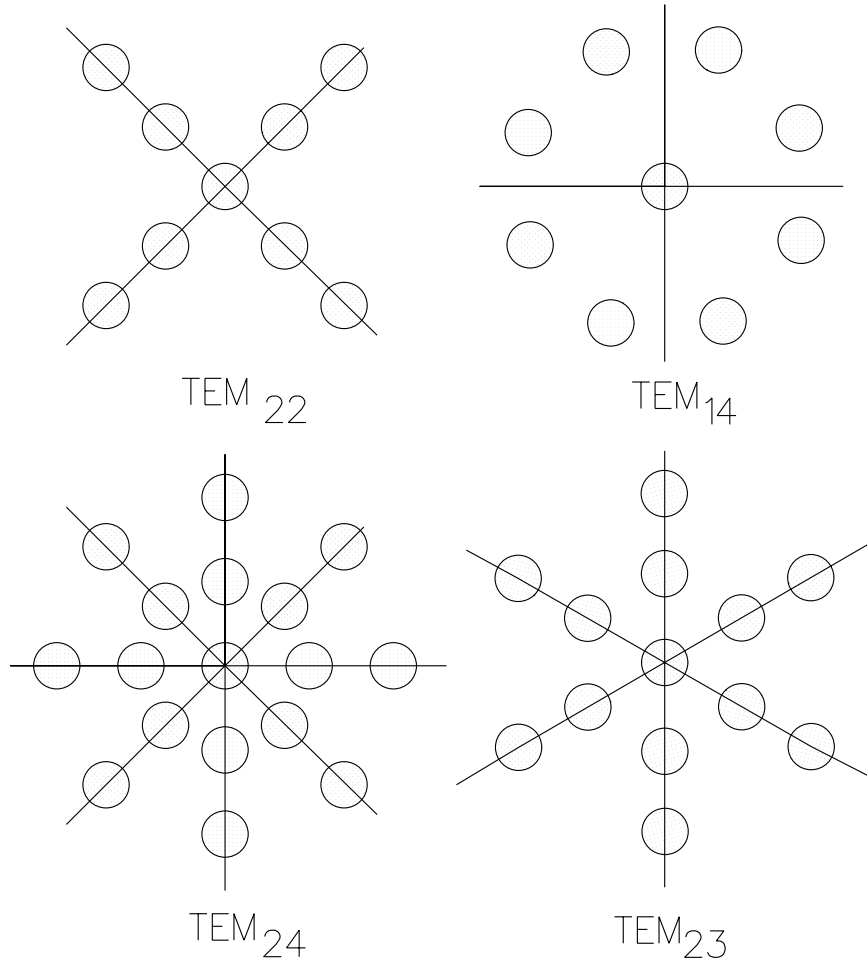

Figure 3: Circular mode patterns for Problem 5.2b.
b. For a TEM_{mn} circular mode we will have $m + 1$ peaks (with one on the center point) along $2n$ radial lines, as seen in Fig. 3. Note: I have added the TEM_{24} as well.